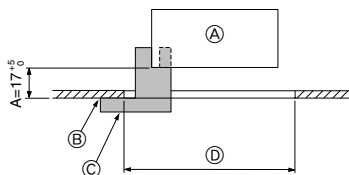
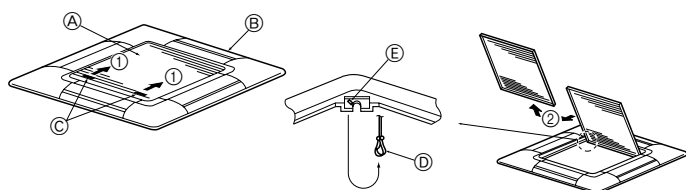

Fig. 9-2
Fig. 9-3
①	Grille	1	950 × 950 (mm)
②	Screw with captive washer	4	M5 × 0.8 × 25
③	Gauge	1	(Divided into four parts)
④	Fastener	2
⑤	Screw	4	4 × 8
⑥	Wireless remote controller	1	for PLP-6AALM
⑦	Wired remote controller	1	for PLP-6AAMD
9.2. Preparing to attach the grille (Fig. 9-2)
- With the gauge ③ supplied with this kit, adjust and check the positioning of the unit relative to the ceiling. If the unit is not properly positioned relative to the ceiling, it may allow air leaks or cause condensation to collect.
- Ⓒ Gauge ③ (inserted into the unit)
9.2.1. Removing the intake grille (Fig. 9-3)
- Slide the levers in the direction indicated by the arrow ① to open the intake grille.
- With the intake grille in the "open" position, remove the hinge of the intake grille from the grille as indicated by the arrow ②.